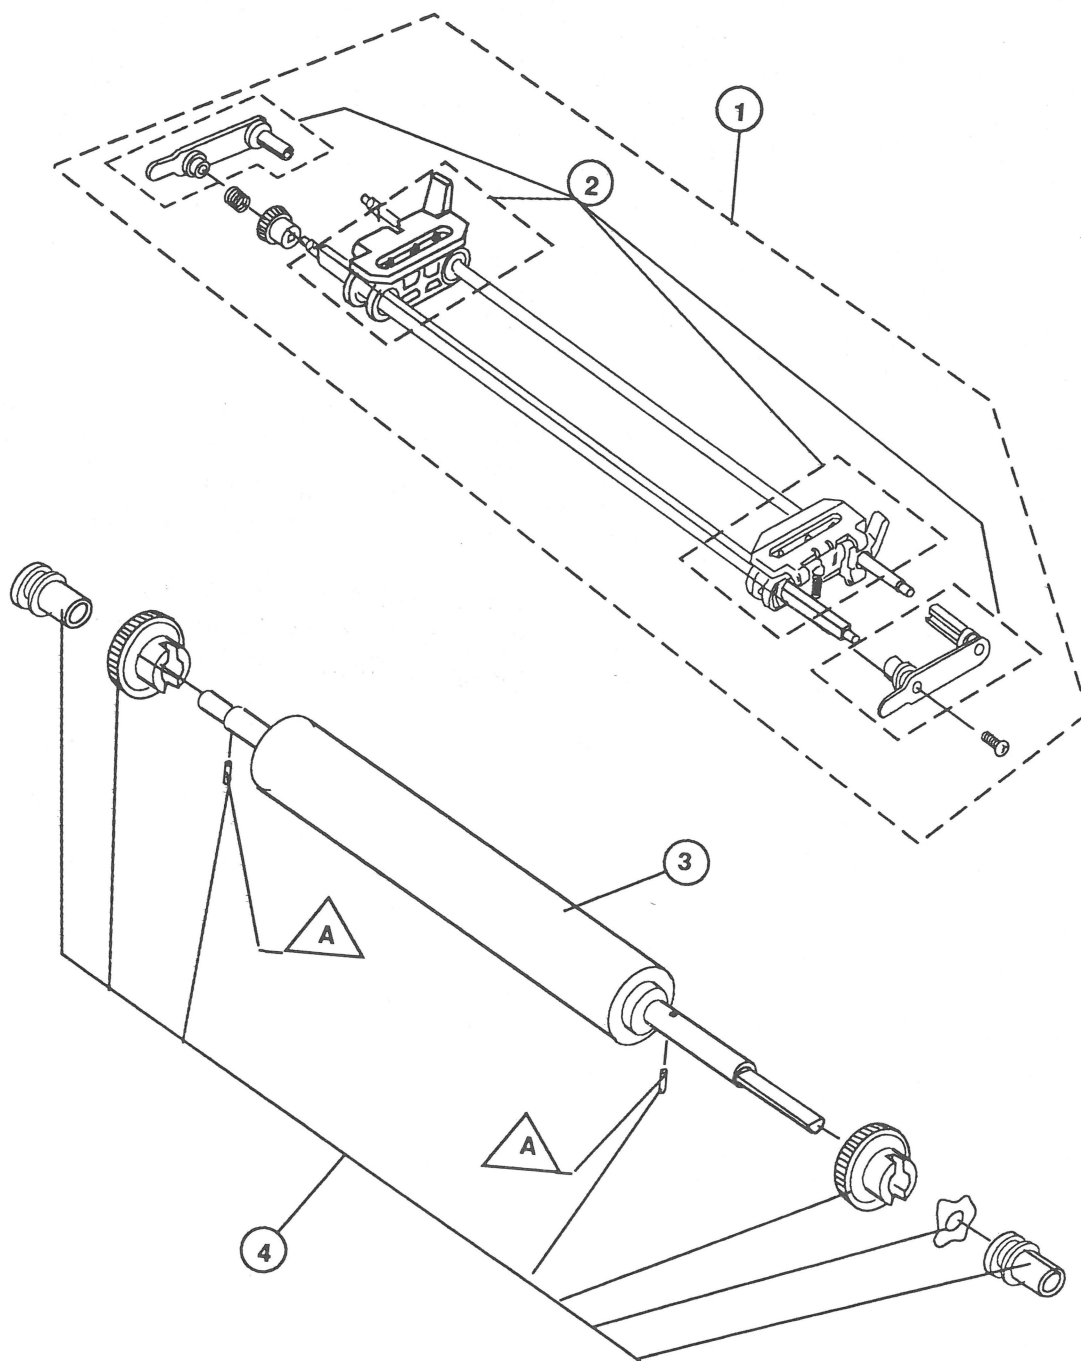

Figure 3
IPL.9	Platen and Tractor Assemblies, Top View (Figure 3)
□ PLATEN AND TRACTOR ASSEMBLIES, TOP VIEW (Figure 3)